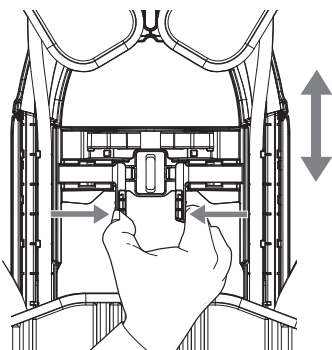

Fig. 28 Pressing the spring-loaded buttons
2. Simultaneously press the two spring-loaded buttons (Fig. 28).